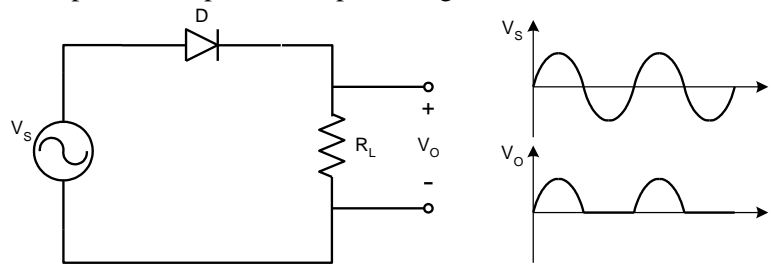

Figure 2.1: Half wave rectifier
1. Connect the circuit in breadboard as shown in Fig: 2.1 without capacitor.